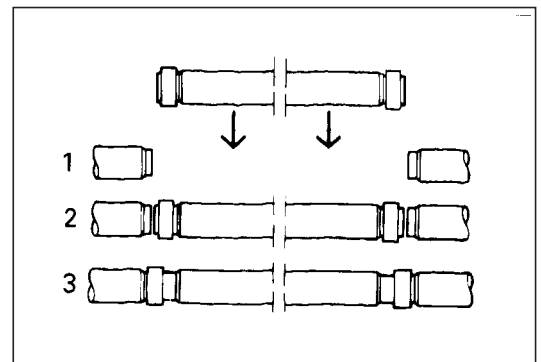

Figure 7.2
6. Place the closure pipe in its final position and pull the coupling over the adjacent pipes up to the home line (*Figure 7.2, Steps 2 and 3*).